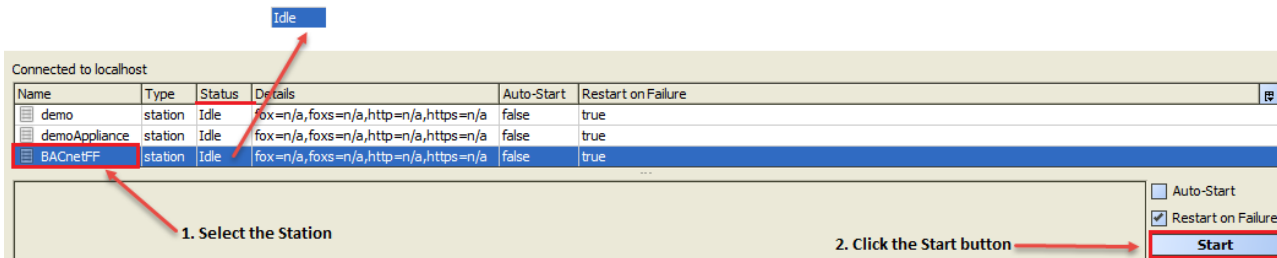
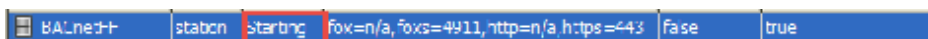

Fig. 14. Selecting the Station to Start
Fig. 15. Starting the Station
4. Click 'Start' button as shown in Figure 14. After clicking 'Start', the 'Status' of this station will change to 'Starting' as shown in Figure 15.